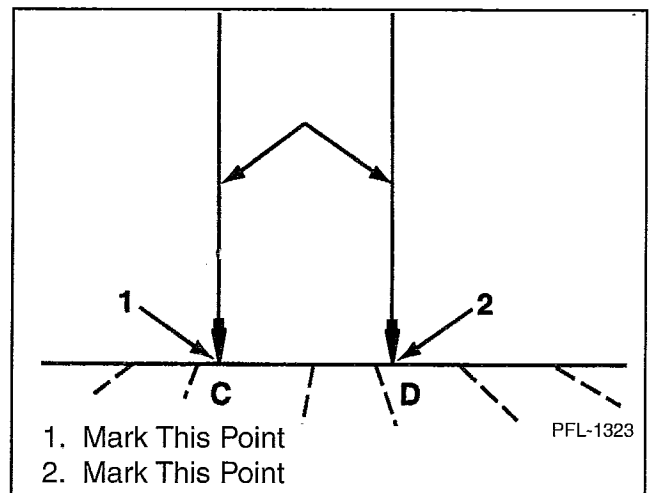

Figure 5
5. Drop a plumb bob and mark points C and D. See Figures 5, 6, and 7.